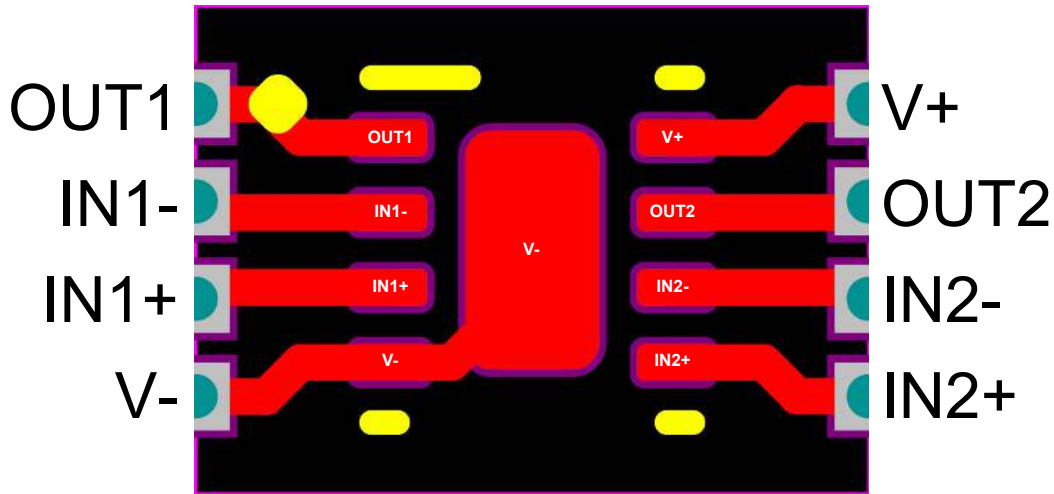
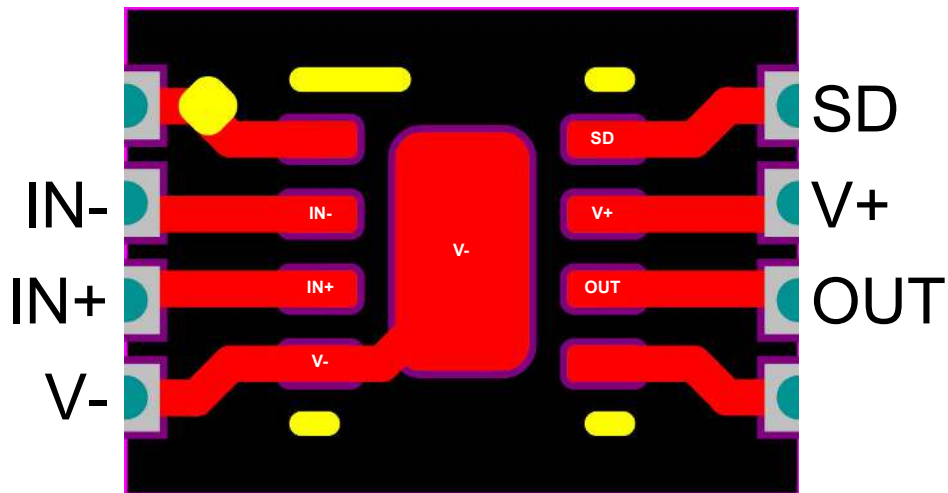

Figure 3-4. Dual TSSOP-VSSOP to WSON (DSG)
Figure 3-5. Single VSSOP to WSON (DSG)
The WSON (DSG) board can be used to adapt a dual-channel WSON (DSG) device to dual-channel TSSOP-VSSOP footprint and a single-channel WSON (DSG) device to single-channel VSSOP footprint, as shown in Figure 3-4 and Figure 3-5 respectively. For single-channel WSON (DSG) devices, both the shutdown (SD) and non-shutdown variants are supported.